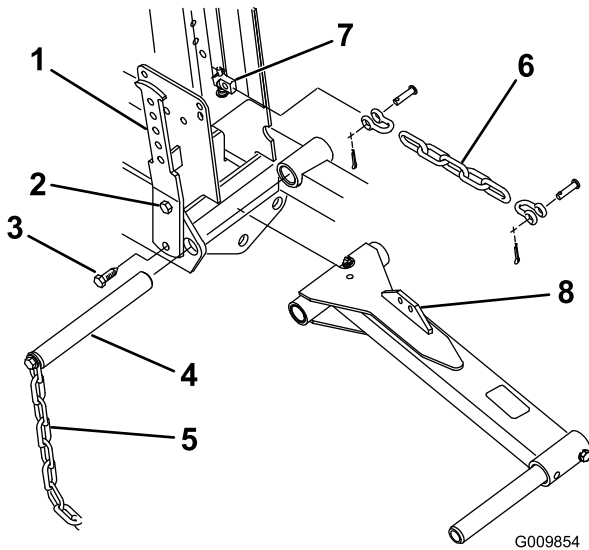

Figure 6
3. Loosen the top bolt securing the left counterbalance arm to the frame (Figure 6).
4. Remove the bottom bolt and nut securing the left counterbalance arm to the frame (Figure 6).
5. Rotate the counterbalance arm outward and remove the lift arm pivot pin and tipper chain (Figure 6).
6. Position the lift arm between the frame members, align the mounting holes, and install the pivot pin (Figure 6). Insert the pivot pin so that the counterbalance arm fits into the slot in the pin. Do not secure the counterbalance arm at this time.